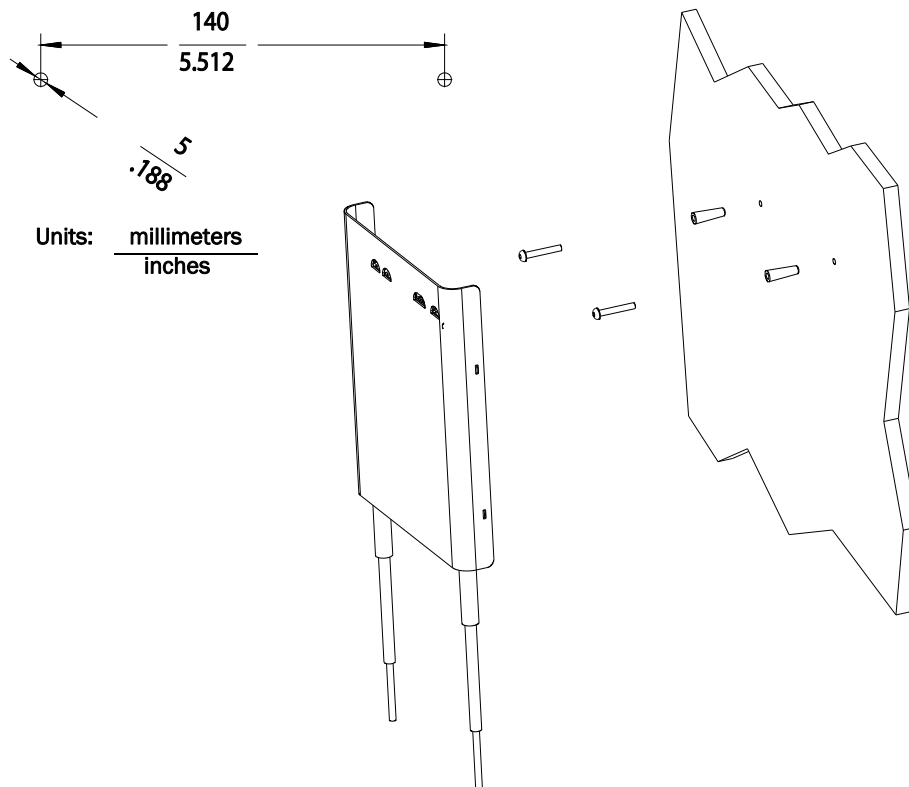

Figure 2-5: Mounting the IntelliVue Smart-hopping 1.4 GHz Core AP to a Wall (Fixed Mount)
1. Using a 3/16-inch drill bit, drill a pilot hole 0.188 inches (5 mm) in diameter at the locations shown in Figure 2-5.
3. Screw a supplied #6 x 1 1/4 inch self-tapping screw into each screw anchor (or pilot hole) as shown in Figure 2-5.
4. While holding the AP chassis with its antennas pointing down as shown in Figure 2-5, fit the holes in the back of the AP chassis over the screw heads that protrude from the wall. Slide the AP chassis down so that the screw heads are securely in the grooves in the back of the AP chassis.